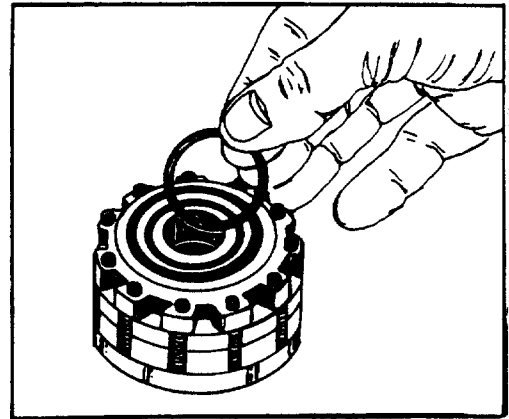

FIGURE 22.
- remove commutator seal** 26. Remove and discard the commutator seal (19) from the commutator cover (20). See figure 22.